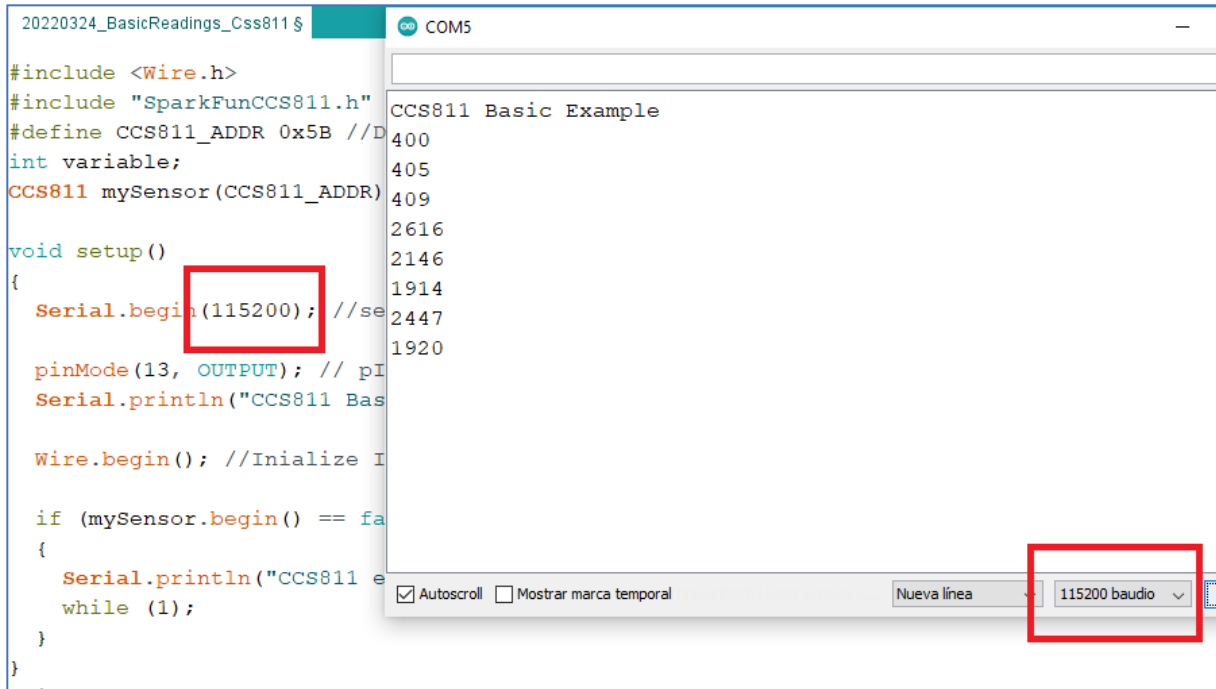

Figure 2. Arduino Sketch: Check the data transfer.
2.- Verify that the data acquisition through the serial port is done correctly. To check it, blow close to the sensor and make sure that the CO2 acquisition value varies. Once verified, close the app (figure 2).